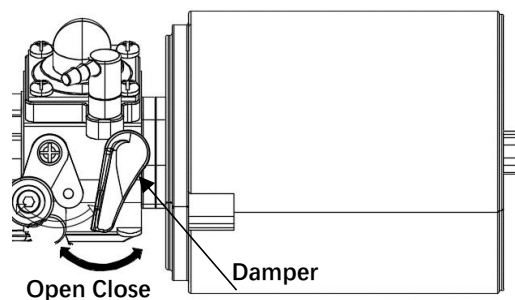

Fig 10
5.6.4 When starting the cold engine, close the choke. After starting the idle speed, open the choke (as shown in Figure 10). When starting the hot engine, it is not necessary to close the choke.